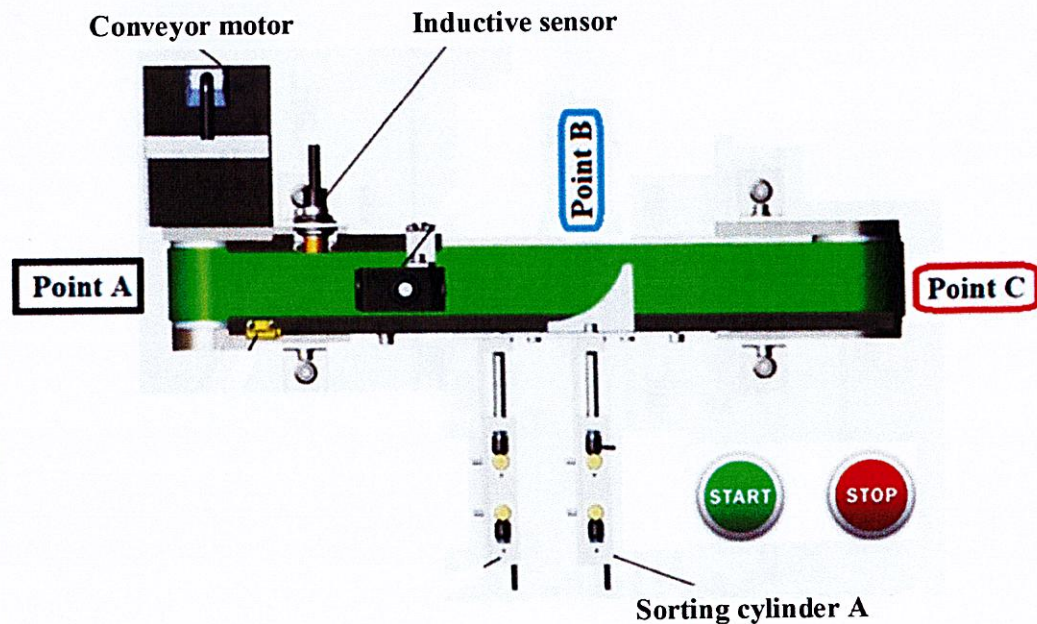

Figure B2: Conveyor system
Figure B2 shows a Part Sorting System. There are two (2) types of objects to be sorted, metal and plastic parts. Both types of objects will start moving from Point A.